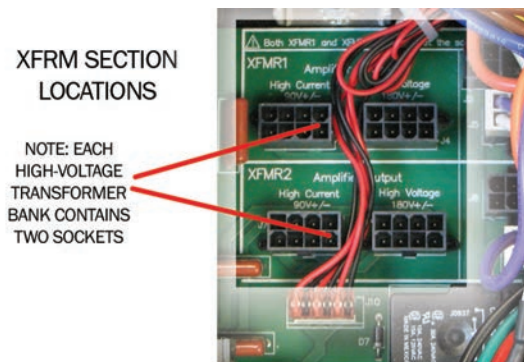

Figure 5.7 – Location of Amplifier High-Voltage Transformer Sockets
1. Locate the two XFMR sections (left of Line Voltage sections) (see **Figure 5.7**).